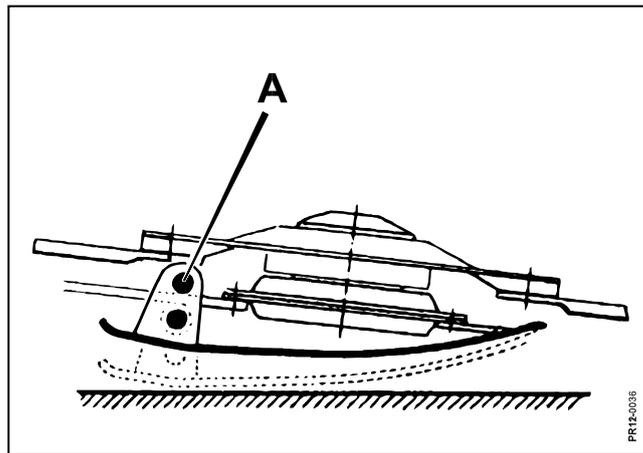

Fig. 3-5
- Fig. 3-5** 2) Adjust **the stubble height** by means of guide shoes and by adjusting the inclination of the cutter bar.
- 6) **Any modification** of the stubble height requires a readjustment of the relief. (Fig. 3-5).